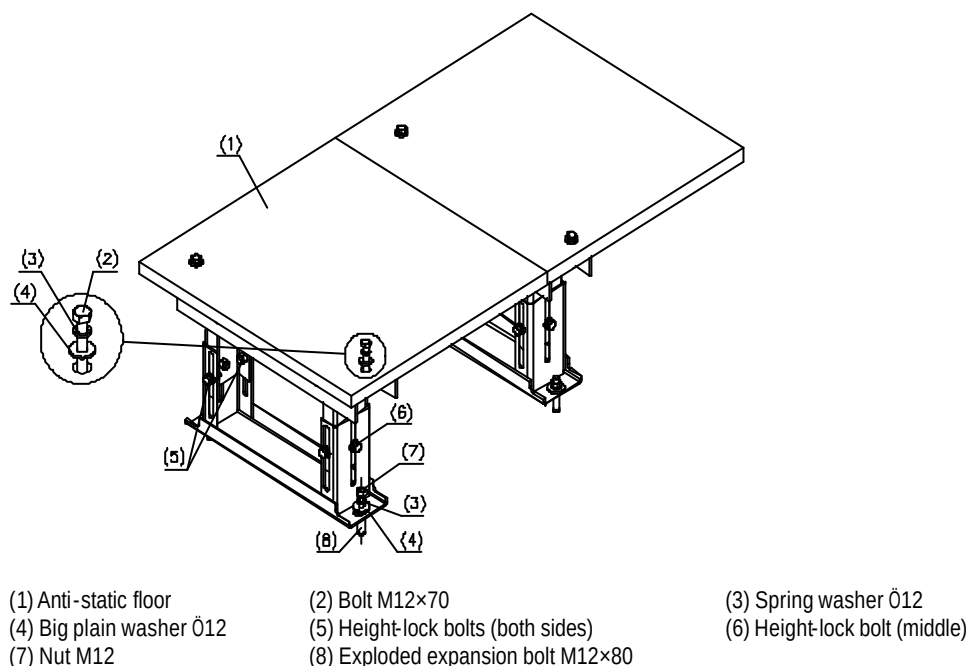

Figure 3-12 The position of fastening bolts
- 1) Align the hole on the anti-static floor with the connecting holes of the support. Screw the M12×70 bolts from the top to bottom. Meanwhile, place the plain washer, spring washer and insulating covering (for the purpose of increasing the contact area) as is shown in Figure 3-12.
- 4) Tighten the height-lock bolts to 45Nm with a Torque wrench. The bolts in the middle should be tightened first and then those on both sides. Figure 3-12 is the diagram of bolt position.